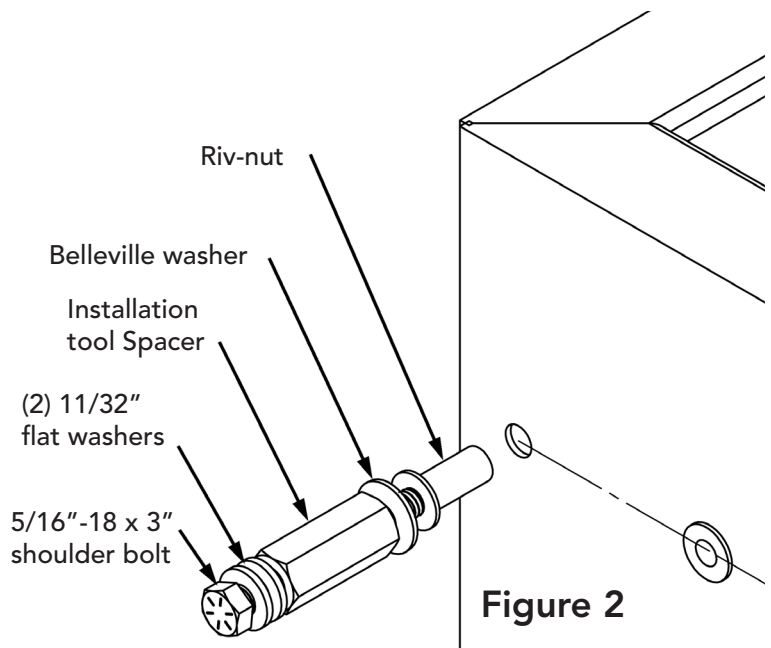

Figure 2
3. Assemble the riv-nut installation tool as shown in Figure 2. Thread riv-nut onto end of tool and insert riv-nut into mounting hole as shown. Using a 9/16" box wrench, hold the installation tool spacer in position while fully tightening the 5/16"-18 x 3" bolt with a 1/2" wrench to lock the riv-nut into position. Remove bolt from riv-nut and repeat this procedure for the remaining three mounting holes on this corner.